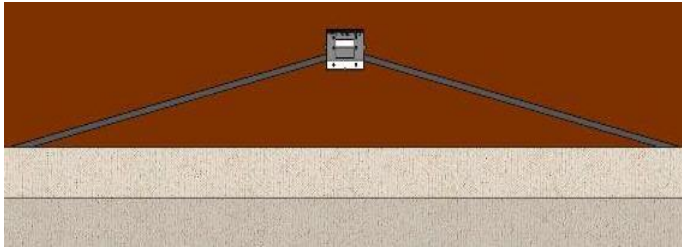

Figure 7
4. At Approx. a 10-20 Degree Angle continue pressing the tape leading away from the D5r6 chambers to the bottom of the wall or top of the baseboards (**Figure 7**).